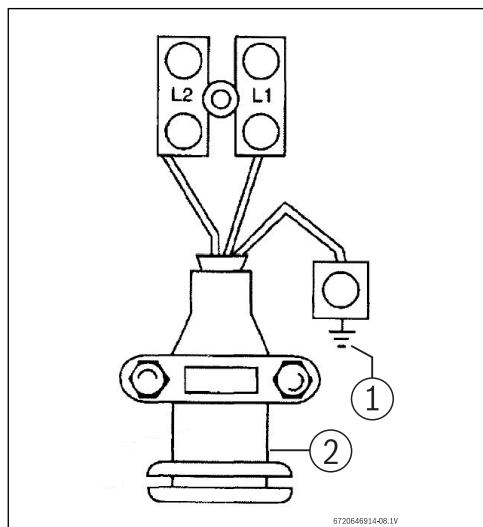

Fig. 3 Cable termination
- Connect the cables to the terminal block and ground stud (Fig. 3 ):